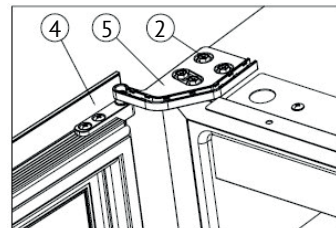

Figure 6
➔ Turn the door (4) 180 degrees, and insert the right lower hinge (5), screw tight M5\*16 screws (2) (Figure 6).